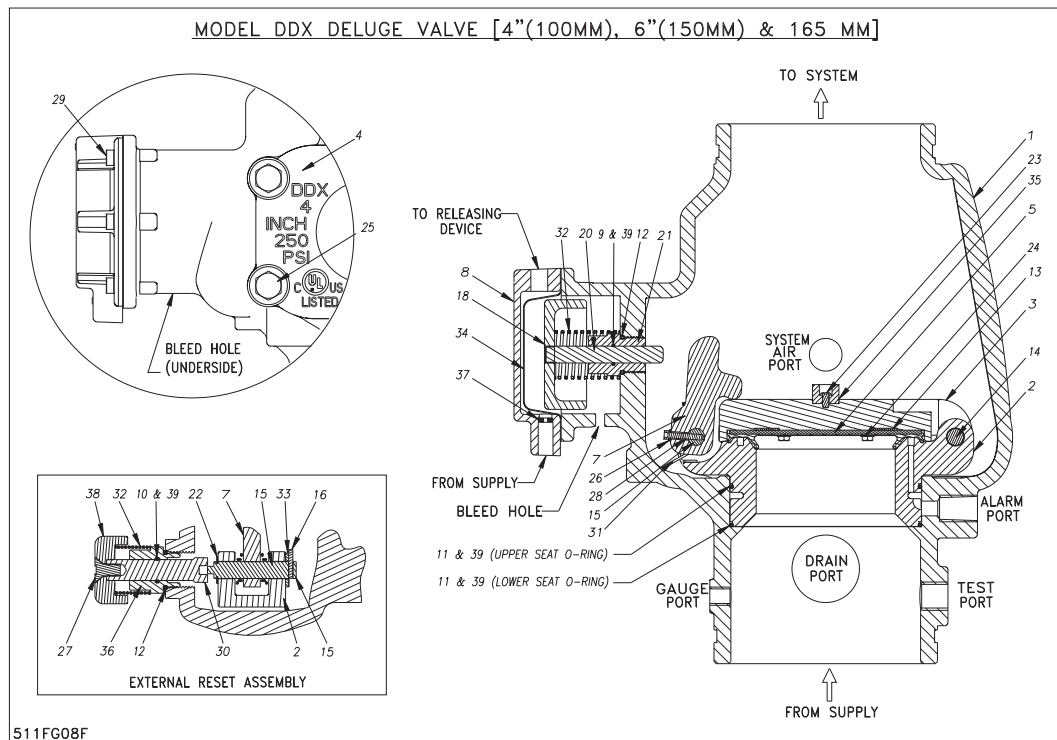
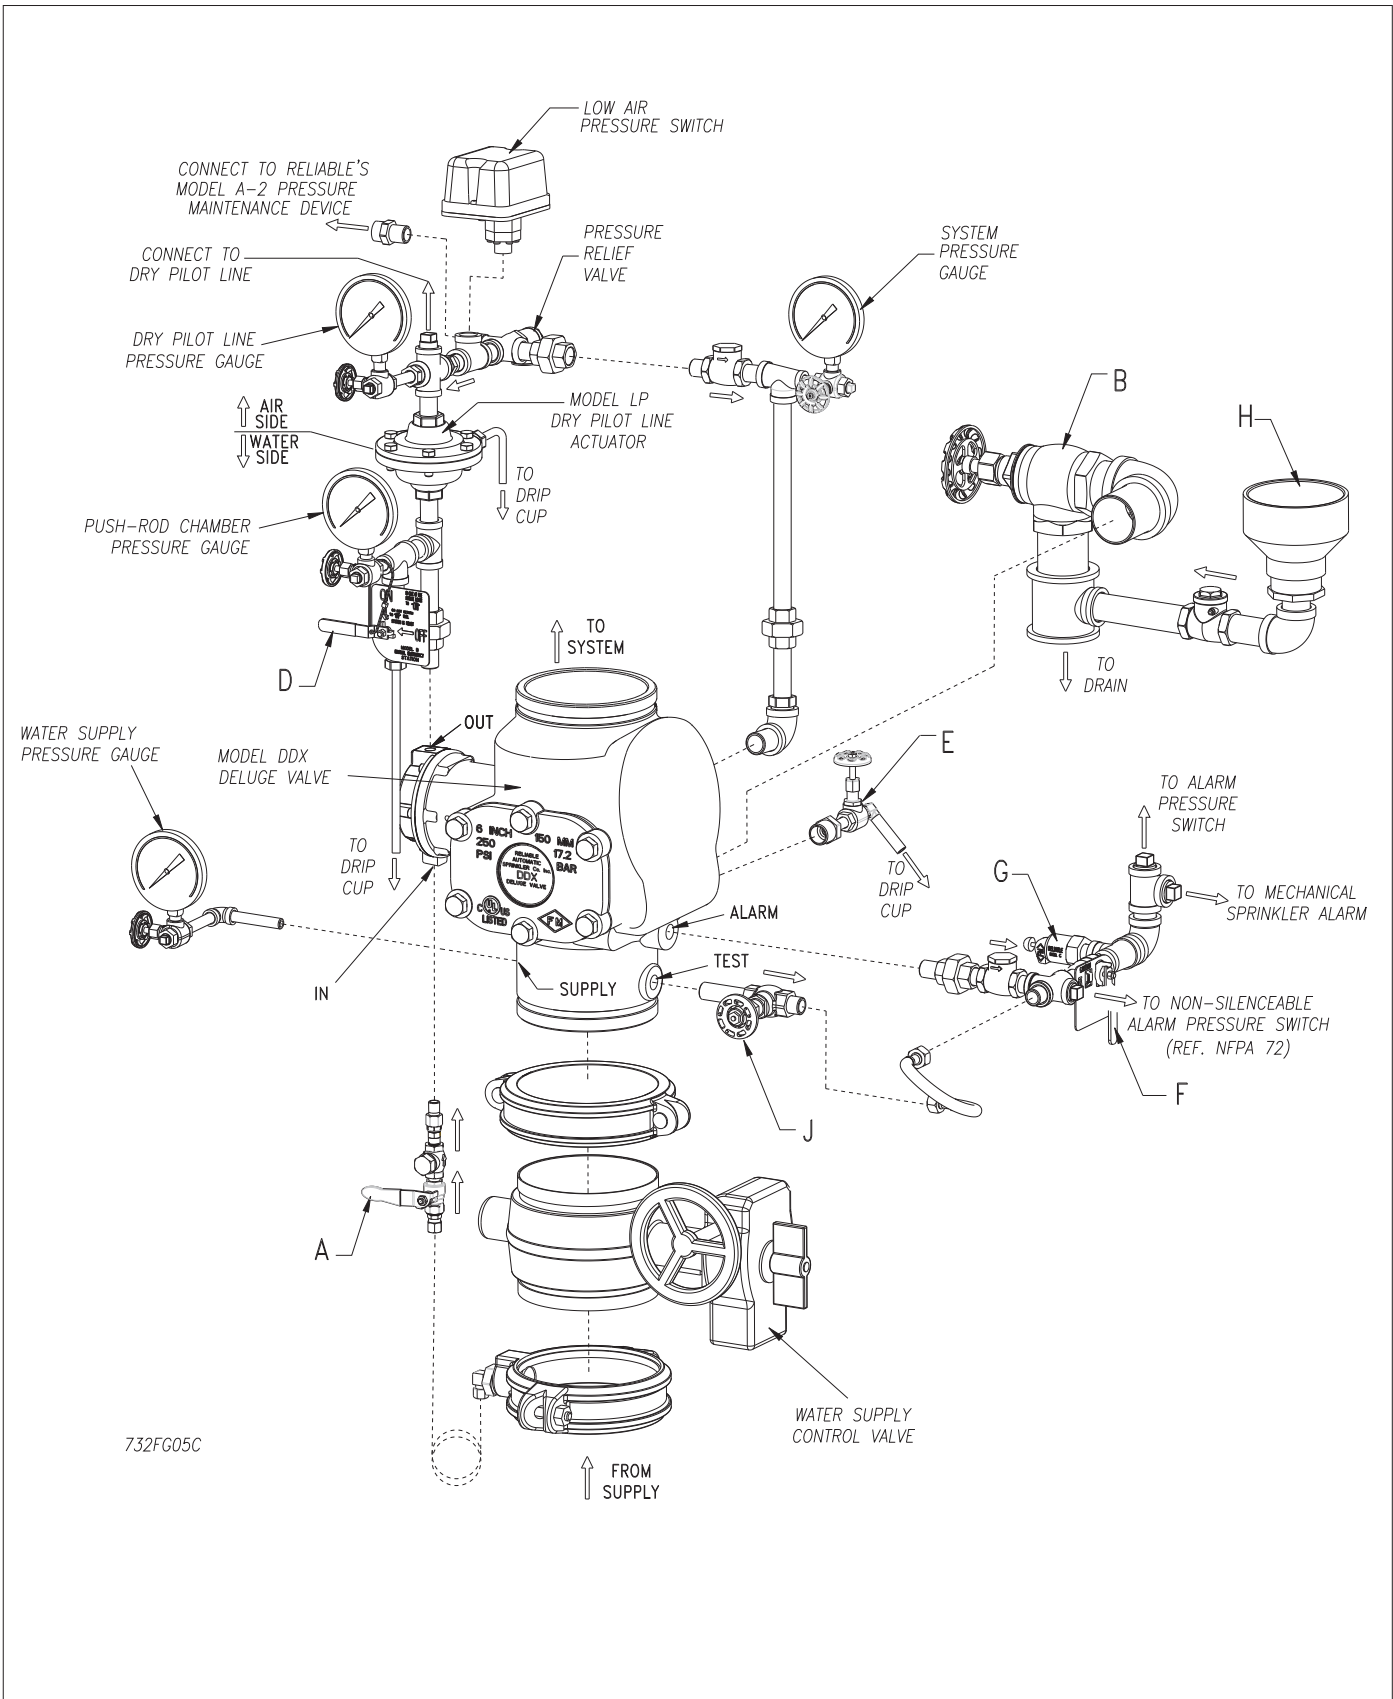

Fig. 4
Fig. 5
- Close the main valve controlling water supply (Fig. 5) to the Deluge Valve and close off the air supply to the sprinkler system and the dry pilot line.
- Close the pushrod chamber supply valve, valve A (Fig. 5).
- Open the main drain valve, valve B (Fig. 5), and drain system.
- Open all drain valves and vents at low points throughout the system, closing them when flow of water has stopped. Open valve D (Fig. 5).
- With valve F (Fig. 5) open, push in the plunger of ball drip valve, valve E (Fig. 5), to force the ball from its seat, and drain any water in the alarm line.
- With the Model B Manual Emergency Station, valve D (Fig. 5), open, push in and rotate the Deluge Valve's external reset knob (#38, Fig. 4) clockwise until you hear a distinct clicking noise, indicating that the clapper has closed. **Note:** The reset knob can be rotated only after pressure in the pushrod chamber is reduced to atmospheric conditions (0 psig).
- Open valve A (Fig. 5) and allow water to fill the Deluge Valve's pushrod chamber. Close valve D (Fig. 5).
- Bleed any air from the actuation piping. Open valve D (Fig.5) allowing water to flow through the pilot line actuator. Close valve F (Fig. 5). When all air has been expelled from the release line, and there is a solid flow of water into the drain cup H (Fig. 5), apply compressed air or nitrogen through the pressure maintenance device to close the pilot line actuator. **Note:** It may be necessary to temporarily close the main drain (valve B, Fig. 5) in order to build sufficient air pressure to "set up" the Model LP Actuator. Once the Model LP Actuator is "set up", the main drain (valve B, Fig. 5) should be reopened and the remaining procedure followed. Subsequently, close valve D (Fig. 5) and adjust the air or nitrogen pressure to the appropriate value in Table A as indicated on air pressure gauge (#26, Fig. 2).
- Open valve F (Fig. 5). Open slightly the main valve controlling water supply (Fig. 5) to the Model DDX Deluge Valve, closing drain valve B (Fig. 5) when water flows. Observe if water leaks through the ball drip valve, valve G (Fig. 5), into the drip cup H (Fig. 5). If no leak occurs, the Deluge Valve's clapper is sealed. Open slowly, and verify that the main valve controlling water supply is fully opened and properly monitored.
11. Verify that valve A (Fig. 5) and valve F (Fig. 5) are open.
12. Secure the handle of the Model B Manual Emergency Station, valve D (Fig. 5), in the OFF position with a nylon tie (#54, Fig. 2).
2. **Alarm line** — be sure that valve F (Fig. 5) is opened and remains in this position.
3. **Other trimming valves** — check that valve A (Fig. 5) is open as well as all of the pressure gauge's 1/4" 3-way valves. Valves D, E and J (Fig. 5) should be closed.
4. **Ball drip valve G (Fig. 5)** — make sure valve F (Fig. 5) is open. Push in on the plunger to be sure the ball check is off its seat. If no water appears, the Deluge Valve's water seat is tight. Inspect the bleed hole (see Fig. 4) on the underside of the push rod chamber for leakage.
6. **Releasing device** — check outlet of the releasing device (i.e., Model LP Dry Pilot Line Actuator or the Model B Manual Emergency Station, valve D (Fig. 5) for leakage. Also verify that tubing drain lines from releasing devices are not pinched or crushed which could prevent proper releasing of the Deluge Valve.
7. **Testing alarms** — make sure valve F (Fig. 5) is open. Open valve J (Fig. 5) permitting water from the supply to flow to the electric sprinkler alarm switch and to the mechanical sprinkler alarm (water motor). After testing, close this valve securely. Push in on the plunger of ball drip valve G (Fig. 5) until all of the water has drained from the alarm line.
8. **Operational test** — Open the Model B Manual Emergency Station, valve D (Fig. 5). **Note:** An operational test will cause the Deluge Valve to open and flow water into the sprinkler system.
9. Secure Model B Manual Emergency Station, valve D (Fig. 5), in the OFF position with a nylon tie (#54, Fig. 2) after the Deluge Valve is reset.
Refer to Fig. 5
2. Leakage out of the ball drip valve E (Fig. 5).
This condition can be caused by leakage past the system side of the Model DDX Deluge Valve's seal faceplate subassembly (#5, Fig. 4). Be sure that this surface is free of any type of debris. To eliminate leakage due to a water column, refer to the section in this bulletin marked "Draining Excess/Condensate Water From System". If the problem continues proceed to the following section.
b. Leakage, air or water from the ball drip valve, G (Fig. 5):
If system air is leaking out the ball drip valve, the problem is either damage to the airside of the Model DDX Deluge Valve's seal faceplate subassembly (#5, Fig. 4), seat (#2, Fig. 4), or the upper seat O-ring (#11, Fig. 4).
If supply water is leaking out the ball drip valve the problem could be caused by damage to the Model DDX Deluge Valve's seal faceplate subassembly (#5, Fig. 4), seat (#2, Fig. 4), or lower seat O-ring (#11, Fig. 4). The following section provides instructions to correct both conditions:
A) Shut down the valve controlling the water supply to the Deluge Valve and open the main drain valve B (Fig. 5). Open the water column drain valve E (Fig. 5). Close the push rod chamber supply valve A (Fig. 5) and open the Model B Manual Emergency Station D (Fig. 5).
B) Remove the Deluge Valve's front (handhold) cover (#4, Fig. 4) and inspect the seat (#2, Fig. 4), clapper (#3, Fig. 4), and seal faceplate subassembly (#5, Fig. 4) for damage.
If inspection indicates damage to the clapper (#3, Fig. 4) or seal faceplate subassembly (#5, Fig. 4) only, then the clapper subassembly can be removed as follows:
At the rear of the valve, disconnect the water column drain trim section starting with the elbow connector (#16, Fig. 2). Then remove the 1/4" globe valve (#28, Fig. 2), followed by the 3/4" x 1/4" reducing bushing (#12, Fig. 2). Remove the retaining ring (handhold cover side) from the clapper hinge pin (#14, Fig. 4) and push this pin through the water column drain line and remove the clapper subassembly. Remove the four retaining screws (#24, Fig. 4) holding the seal faceplate subassembly (#5, Fig. 4). Inspect the clapper (#3, Fig. 4) visually before re-installing. Apply a small amount of silicone-based lubricant to the four retaining screws. Install a new seal faceplate subassembly. Torque the retaining screws to approximately 40 inch-pounds and re-assemble. If the seat (#2, Fig. 4) is damaged or it is suspected that the leakage is through the lower
O-ring (#11, Fig. 4), the seat-clapper subassembly is easily removed as a unit as follows:
Using a 5/16" Allen wrench, remove the two 3/8" NPT pipe plugs (#19 (not shown) Fig. 4) located on the side of the Model DDX Deluge Valve. The seat-clapper subassembly is retained by two locking pins (#17 (not shown) Fig. 4). The centers of these pins have a 1/4"-20 threaded hole. Remove the two locking pins by engaging them with a 1/4"-20 screw or threaded rod and pulling them out (The two locking pins are not threaded, so turning them with the attached 1/4"-20 screw or threaded rod is not recommended. A proven method is to use 1/4"-20 threaded rod with a locknut on the unassembled end. Grab hold of the locknut with pliers or vice-grips and tap the pliers or vice-grips in the direction away from the Deluge Valve. Doing so should pull the locking pins out of the Deluge Valve.). With the clapper (#2, Fig. 4) in the closed position (not latched), dislodge the seat-clapper subassembly from the Valve's body by inserting two slotted screwdrivers under the lever and clapper mounting ears and pry up until the seat-clapper subassembly is free of its bore. Reach into the valve and grasp the seat-clapper subassembly from the sides. Lift up and rotate the seat-clapper subassembly through 90 degrees about the centerline axis of the Model DDX Deluge Valve so that the lever side of the seat-clapper subassembly faces the outlet of the Deluge Valve. Rotate the seat-clapper subassembly around the centerline of the Deluge Valve until the top of the clapper faces the handhold opening and then pull it out clapper hinge-pin side first. Visually examine all components of the seat-clapper subassembly replacing any component that appears damaged. New O-rings (#11, Fig. 4) should always be used for reassembly.